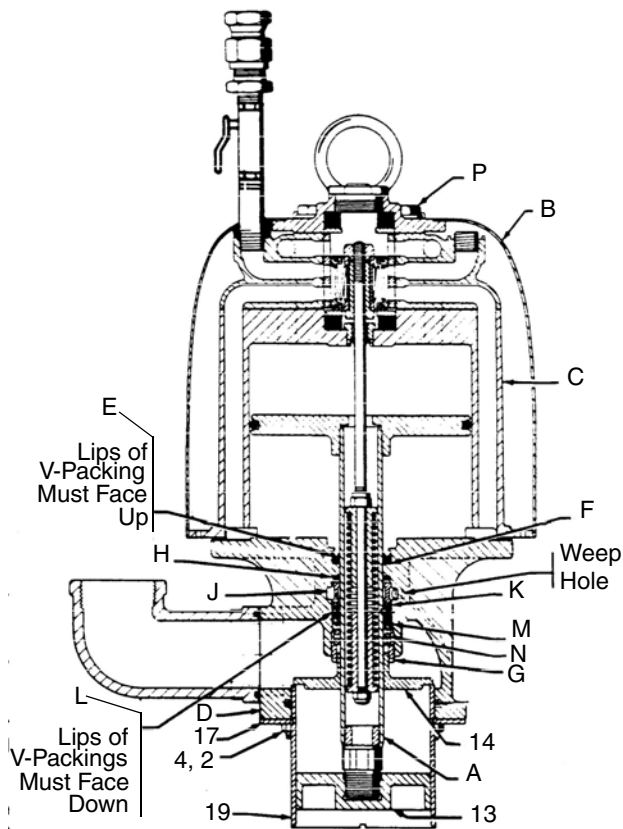

FIG. 4
Throat Packing Repair (FIG. 4)
- Reference numbers and letters in parentheses in the text refer to the callouts in FIG. 4 and Parts List page 9.
3. Remove pump from inductor plate (20).
4. Unscrew priming piston (13) from connecting tube (A). The priming piston has a 1-3/4 in. hex in the center.
5. Remove nuts and lock washers (4, 2) holding pump guides (12) and collars (17). Remove these parts.
6. Pull intake cylinder (19) straight down.
7. Remove screws (P) and air motor shield (B).
8. Remove screws and washers holding air motor cylinder (C) to base (D). Pull base straight off, being careful not to damage smooth surfaces of connecting tube and cylinder.
9. Inspect v-packing (E) in base. If it is worn or damaged, remove it. Grease new packing and carefully tuck it into base. Be sure washer (F) is in place in base.
10. Unscrew packing retainer (G) and remove the spring and packings.
Pump Intake Repair (FIG. 4)